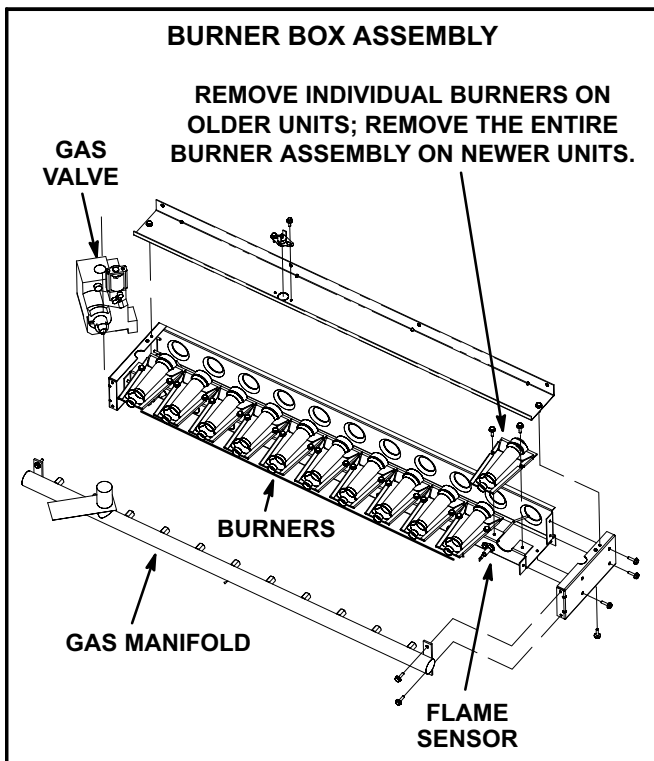

FIGURE 30
- 3- Remove screws securing burners to burner support and lift the individual burners or the entire burner assembly from the orifices. See figure 30. Clean as necessary.